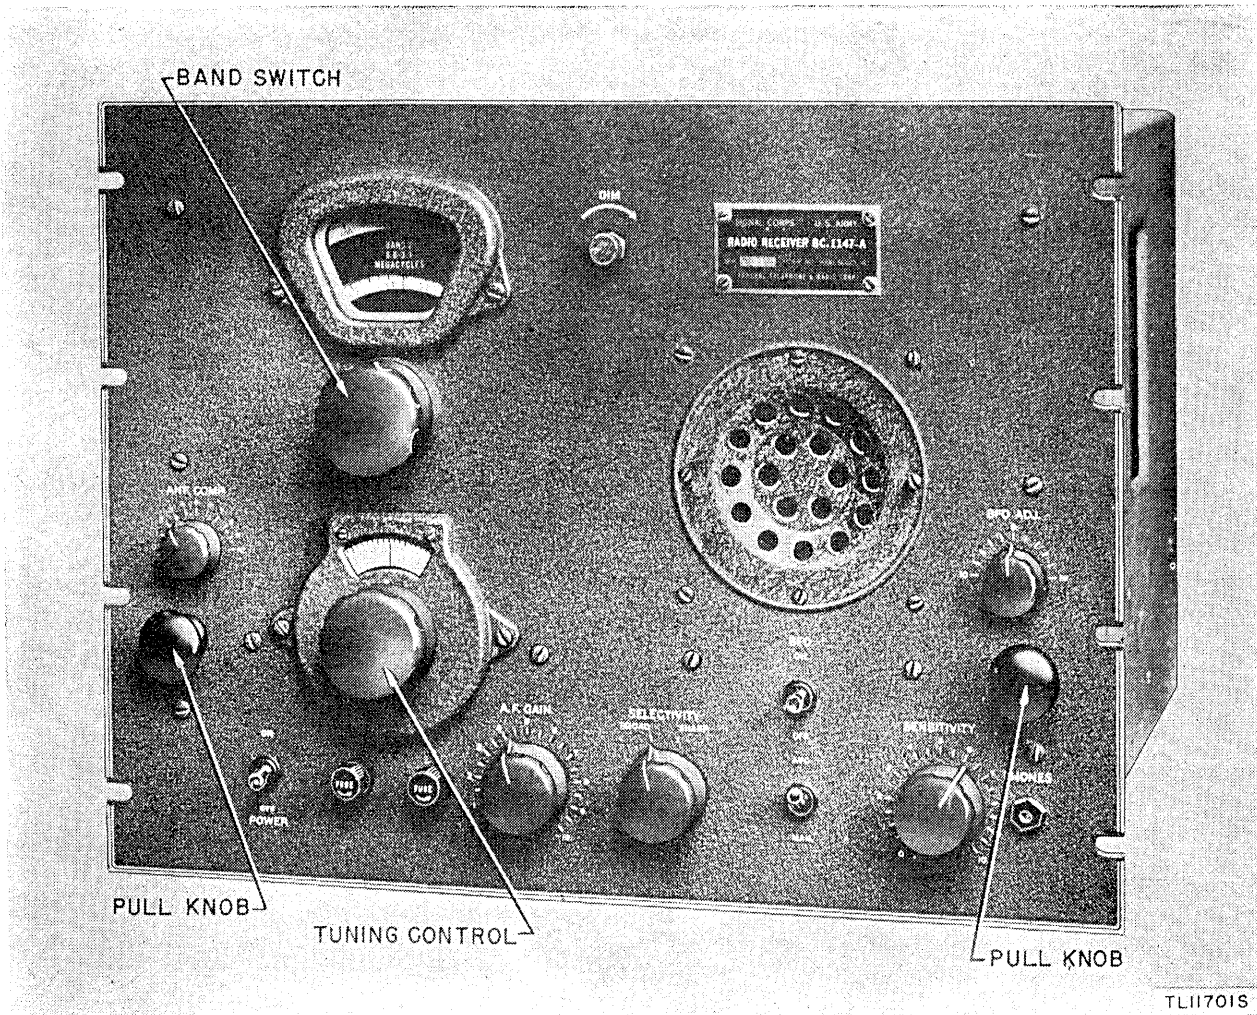

Figure 1. Radio Receiver BC-1147-(*), front view.
a. Radio Receiver BC-1147-(*) is a special purpose, four-band, thirteen-tube superheterodyne receiver designed for use in high-frequency (h-f) radio direction finding equipment, such as Radio Set SCR-291-A and Radio Set SCR-502. This receiver amplifies and rectifies the characteristic goniometer and antenna response for the indicator pattern control circuits associated with Bearing Indicator BC-1159. It also contains the conventional beat-frequency oscillator and audio circuits for reception of amplitude-modulated (a-m) signals. Loudspeaker and headphone outputs are used for stand-by service and simultaneous monitoring while taking bearings. The receiver is capable of receiving voice or continuous-wave (c-w) transmitted signals over the frequency range of 1.5 to 30 megacycles (mc). The frequency range is divided into four bands: 1.5 to 3.1 mc, 3.1 to 6.6 mc, 6.6 to 14.0 mc, and 14.0 to 30.0 mc. Figure 1 shows the front view of this receiver.